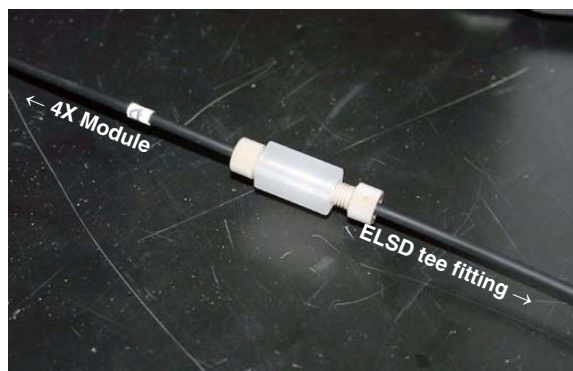

Figure 3-7 Coupler for connecting 4X tubing
3. Connect the 4X tubing marked "D" to the shorter tubing assembly from the 340C kit, using the coupler, as shown in Figure 3-7.